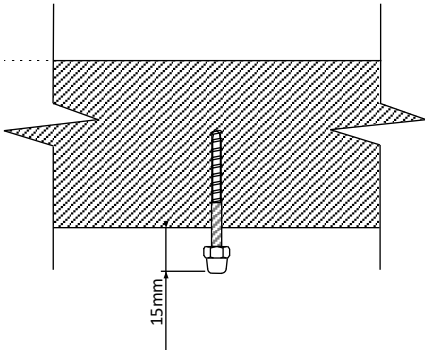

Fig 6
3. Screw bolt into 4 holes leaving 15mm from bulkhead to end of bolt and cap (Fig 6)